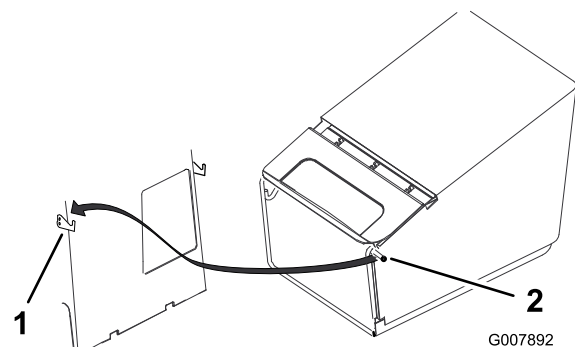

Figure 20
4. Hang the grass bag frame pins onto the hooks as shown in Figure 20.